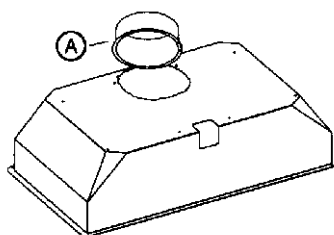

fig.1
The air is vented outdoors by a duct which must be connected to exhaust hole Ø 120 mm. by the connecting ring (A) Fig.1. The hood must not be connected to fuel exhaust flues or to a duct in which hot air is circulated, or is utilized to remove the